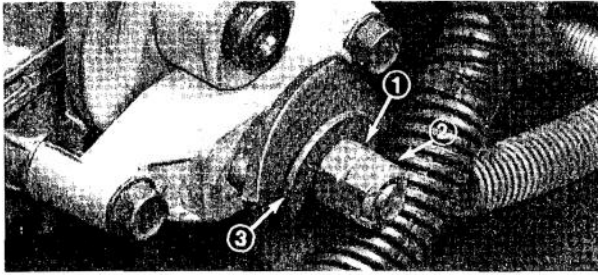

Figure 41
3. Loosen outer jam nut (Fig. 41).
5. Rotate inner nut 1/2 turn counterclockwise (Fig. 41). Check operation of brake by pushing rider: no brake drag should be evident. If drag is evident, rotate inner nut an additional 1/4 turn counterclockwise or until there is no drag.